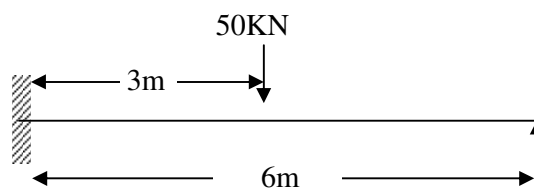

Figure 1
1. Find the support moment for the propped cantilever loaded as shown in Figure 1 if the support rotates clockwise by 0.002 radians. $EI = 1.5 \times 10^6 \text{ kgm}^2$